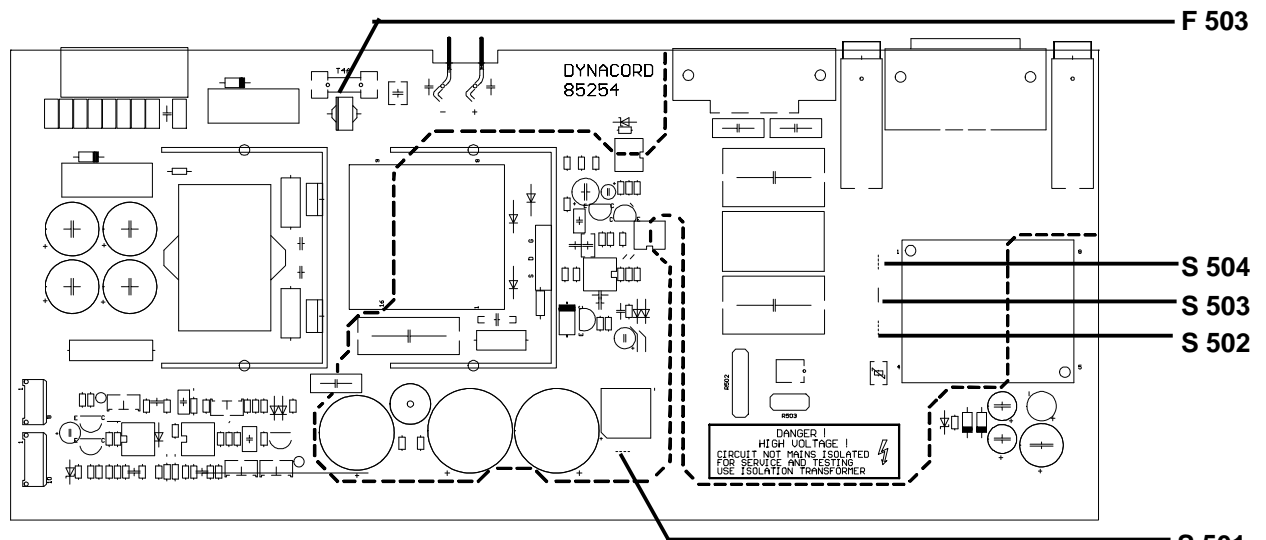

Fig. 3 PCB 85254 Location of the wire jumpers S501 - S504 for altering mains voltage and position of the output fuse F503
For alteration to 115V AC operation, the wire jumpers S501, S502 and S504 on the PCB 85254 are to be soldered in and the wire jumper S 503 must be removed, (see Figure 3).
Reverse voltage protection prevents damage which may be caused by possible polarisation errors when the battery is connected to the charging unit. The short-circuit protection disconnects the battery from the charging unit in the event of shorted cells or total short-circuit. The output fuse F 503 (see Figure 3) in the charging unit blows in this case and must be replaced by a slo-blo fuse with the rating 4A (T4A). In the event of a blown fuse, the green LED (3) CHARGE CURRENT goes out and an error message is activated.